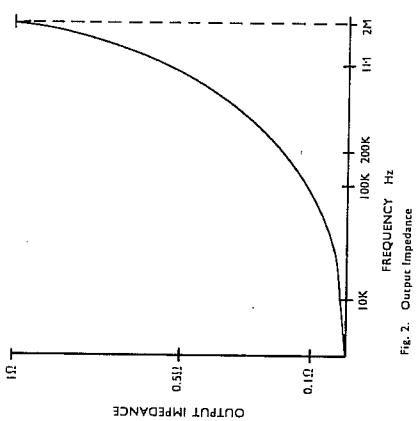

Fig. 2. Output Impedance
- iii) Output impedance - For an alternating load superimposed on a steady load, the output impedance of the supply increases with frequency due to the fall off in gain of the amplifier until it is determined only by the output capacitor across the output terminals. A typical output impedance against frequency curve is shown in fig. 2.
See next page for fig. 2